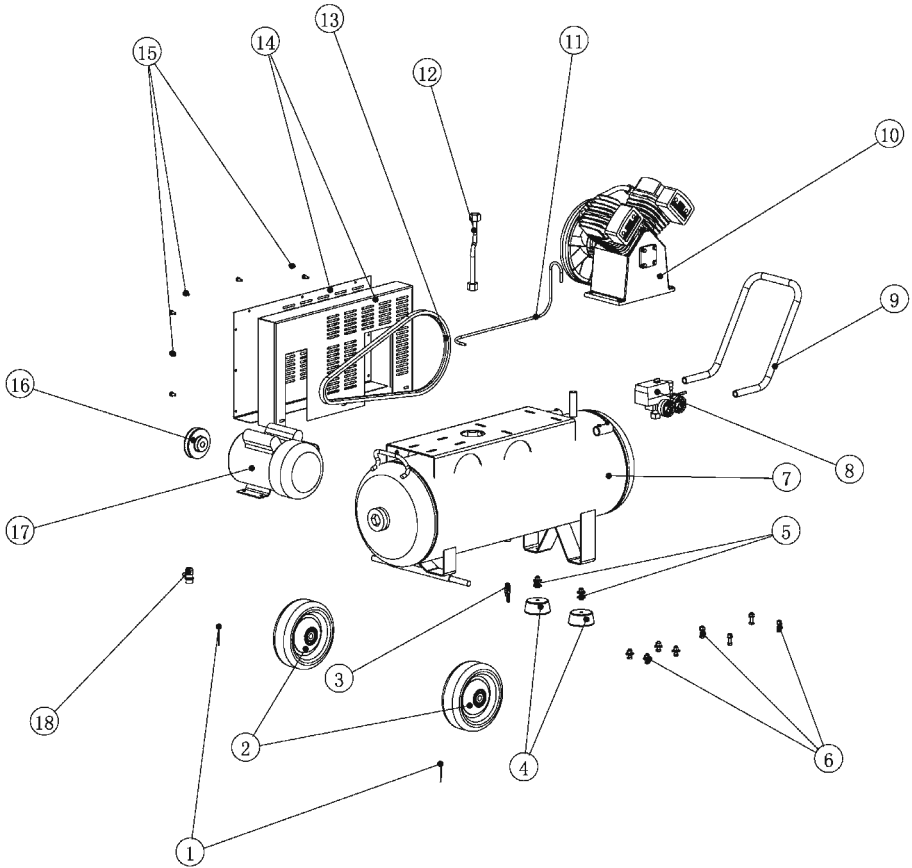

**FIGURE 8**
1. Check oil level. The oil level should be centered with the red dot which appears in the oil sight glass (B) Fig.8.
To change oil, oil must be drained from the crank case by unscrewing and removing oil sight glass (B) Fig.8. Drain oil and replace oil sight glass. To fill the crank case with oil, first unscrew and remove oil breather cap (A), pour air compressor oil (SAE 10W30 or SAE 10W20 weight non-detergent compressor oil) into crank case oil opening until the oil level reaches the red dot at the center mark of the oil sight glass. Secure oil breather cap (A).